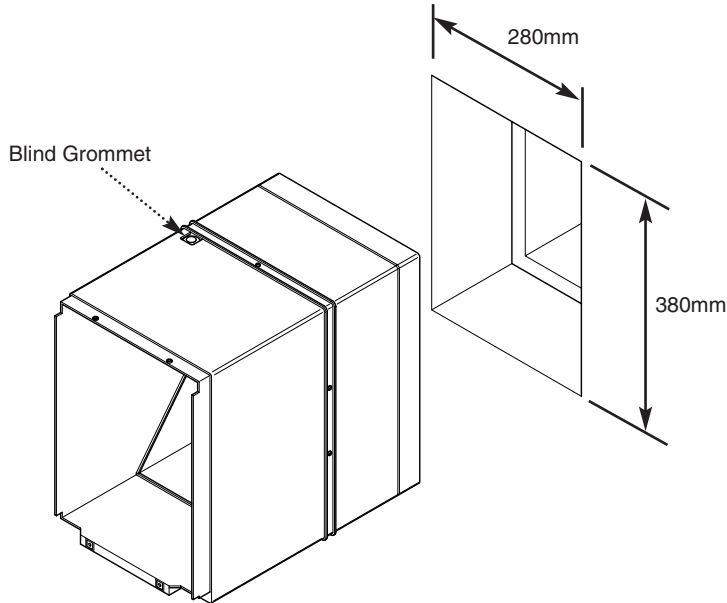

Fig. 5
1. Slide the unit into the mounting hole and ensure that the minimum overhang requirements are achieved inside and out (Fig. 5).
3. Pierce the blind grommet on the left hand side on the top of the unit and feed the supply cable through the grommet (Fig. 5)